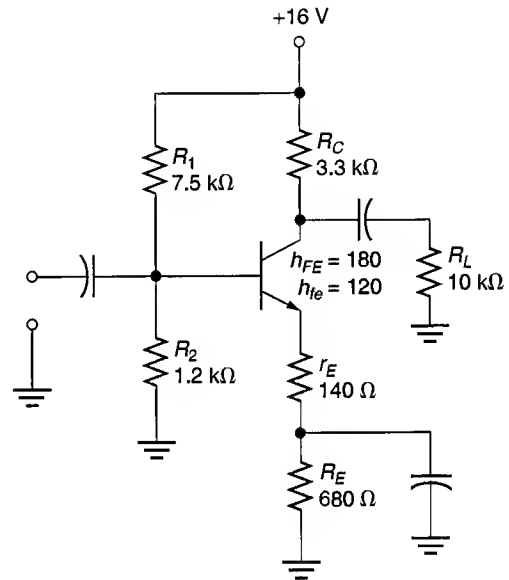

FIGURE 9.36
51. Determine the value of A_v for the amplifier in Figure 9.36.
54. Determine the values of $Z_{in(base)}$ and Z_{in} for the amplifier shown in Figure 9.36.